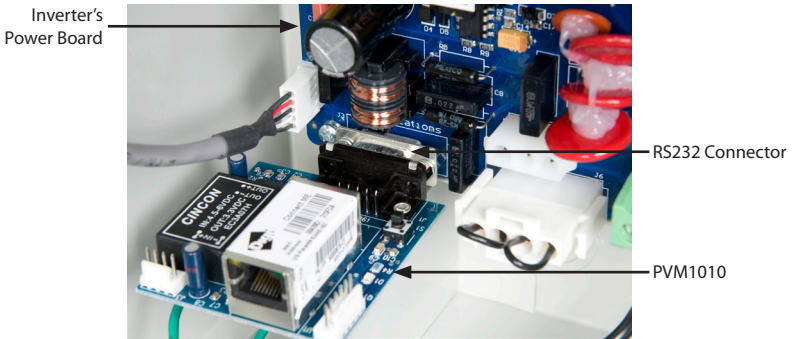

Figure 1-4 PVM1010 inserted to the inverter's power board
4. Insert the PVM1010 DB-9 connector into the RS232 connector located at J3 on the inverter's power board. Refer to Figure 1-4.